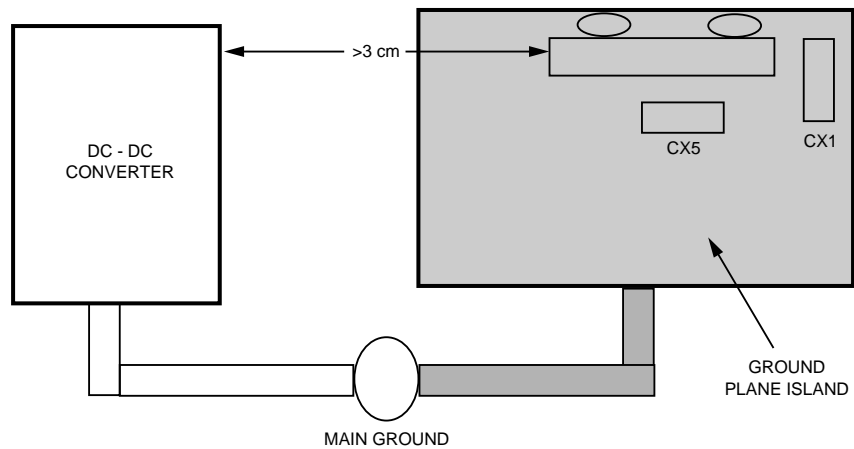

Figure 2.
- The DC-DC converter should be located as far away from the HSDL-1100 on the PC board as possible (at least 3 cm away). The board may then look like Figure 2.